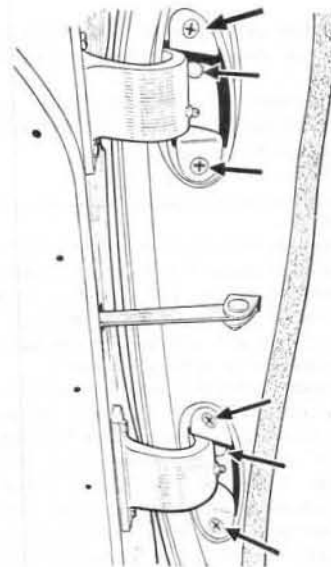
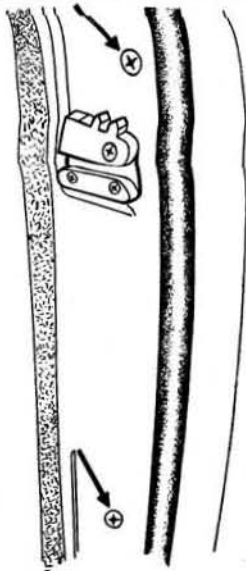

Fig.12.4. The screws securing the rear door hinges
Fig.12.5. Showing the two screws at the front of the centre pillar which secure the rear door hinges
- 7 Take out the two cross headed screws on the rear door side of each hinge (Fig.12.4) and the cross headed screw to each hinge from the front door side of the door pillar (Fig.12.5) and then take off the hinge.